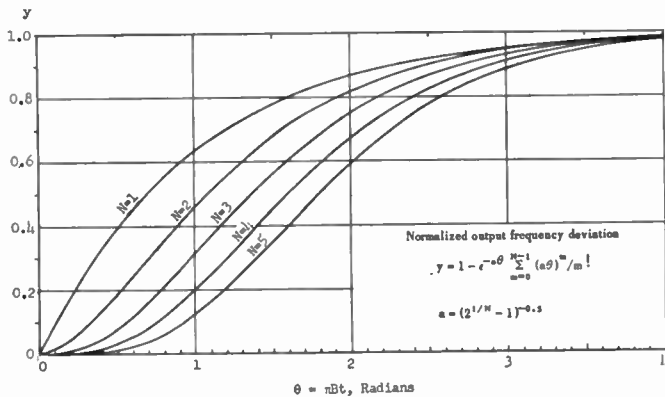

Fig. 5—Response of N -stage synchronously-tuned amplifier to a small rectangular-step frequency shift, near midband frequency.
chronous tuning leading to (23). Fig. 5 shows the results in that case, for amplifiers having the same over-all bandwidth but differing in number of stages.